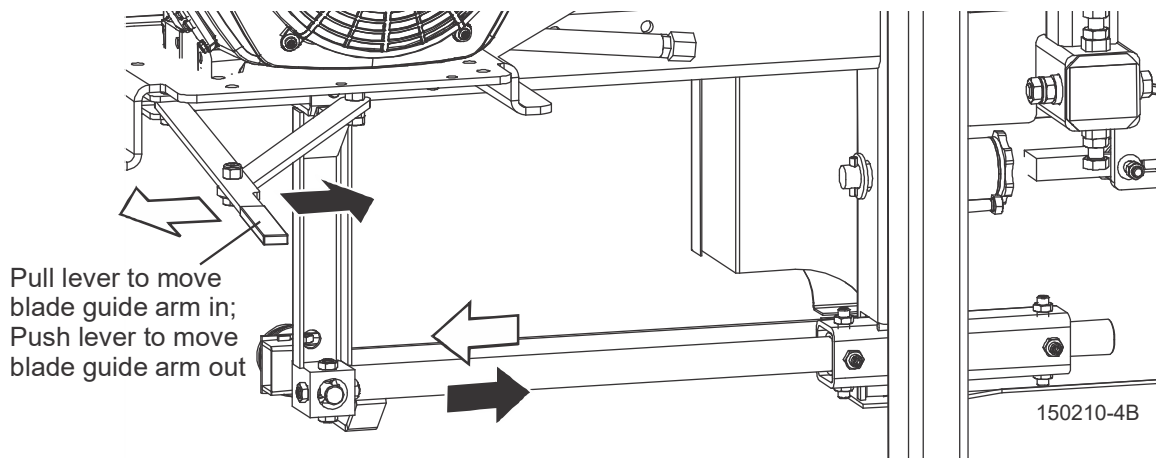

FIG. 5-5
3. Pull the lever toward you to move the arm in; push the lever away from you to move the arm out. See FIG. 5-5.